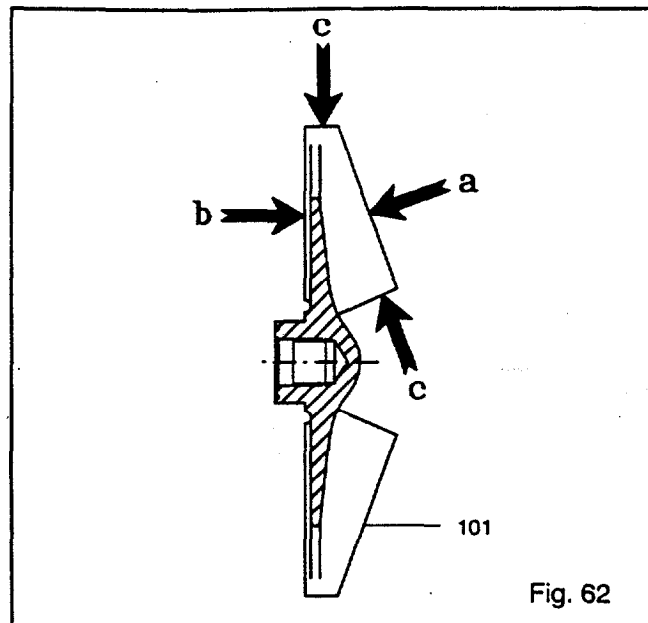

Fig. 62
1. Inspect impeller (101) vanes for damage. Replace if grooved deeper than 1/16 in. (1.6 mm) or if worn evenly more than 1/32 in. (0.8 mm). (Area "a" in Fig. 62)
2. Inspect pumpout vanes for damage. Replace if worn more than 1/32 in. (0.8 mm). (Area "b" in Fig. 62)
3. Inspect leading and trailing edges of the vanes for pitting, and erosion or corrosion damage. (Area "c" in Fig. 62).